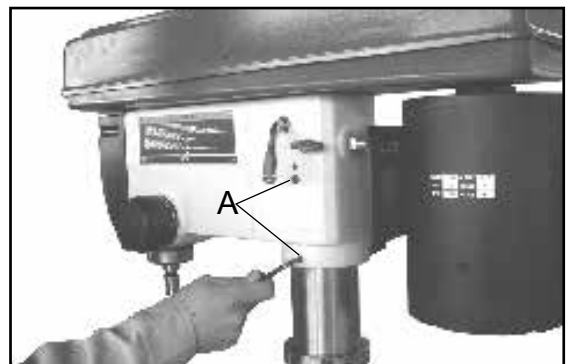

Figure 7
2. Tighten the drill press head to the column by tightening the two set screws on the right side of the head as shown (A-Figure 7).